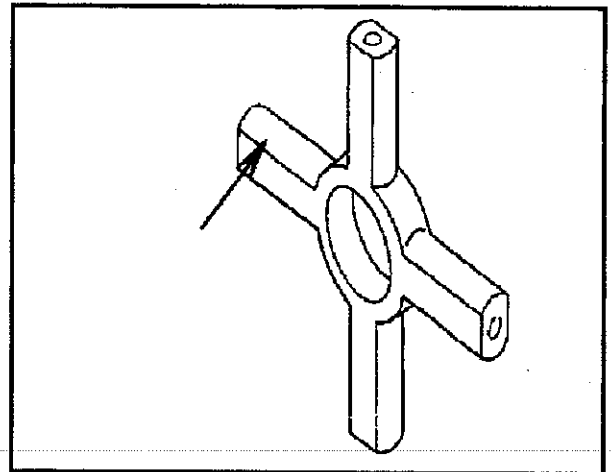

Figure 18—Shafts Inspection Areas
3. Inspect shafts for nicks or scoring. (See Figure 18—Shaft Inspection Areas.)